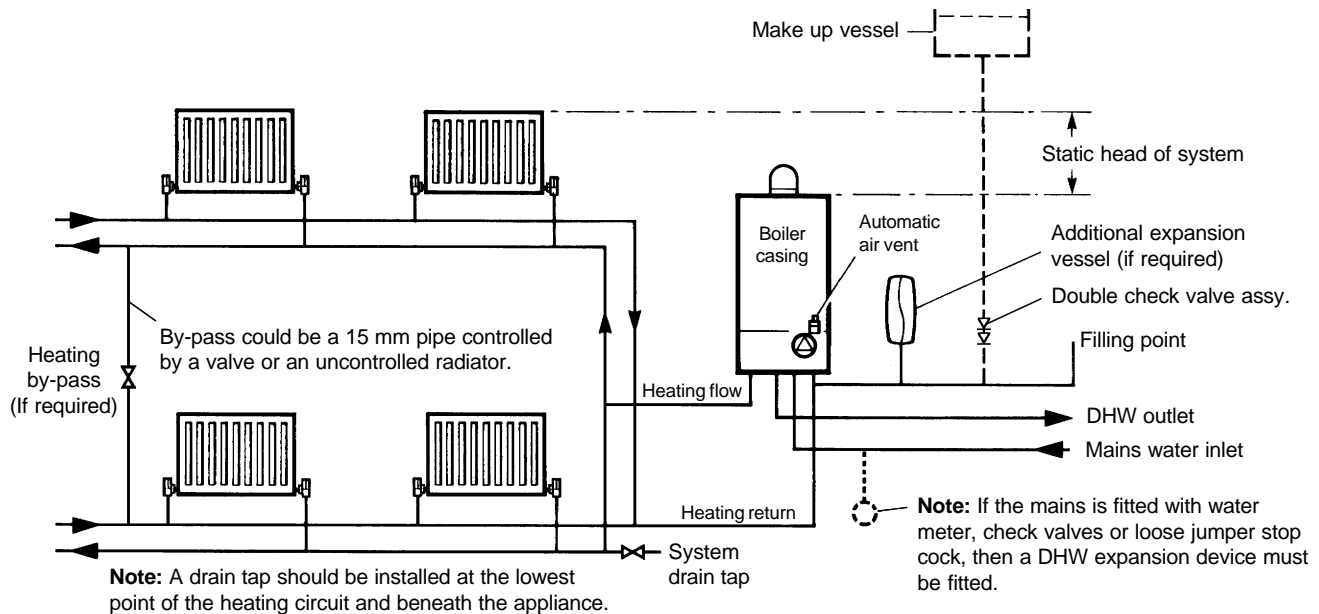
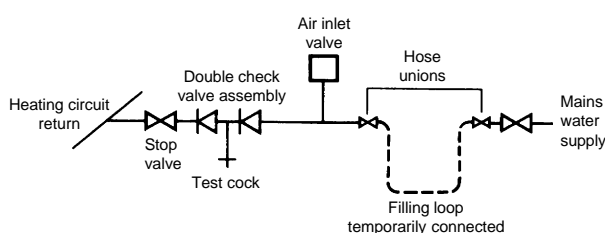
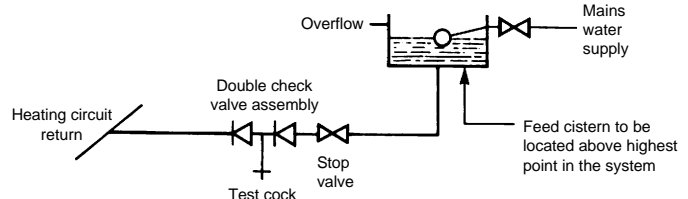

Fig. 6
Fig. 7
Fig. 8
3.7 CENTRAL HEATING SYSTEM - Fig. 6
System volume - The expansion vessel incorporated into the boiler is suitable for a sealed heating system with a maximum water content of 80 litres (18 gal). For guidance on water contents contact Alpha Therm Ltd. for Technical Data Sheet 15. Above 80 litres, consideration should be given to fitting an additional expansion vessel fitted in the position shown in Fig. 6. To check correct operation of the expansion vessel(s) the system pressure should not be more than 2.5 bar when the system is at maximum operating temperature (for further guidance refer to BS 7074:1).
3.8 FILLING THE CENTRAL HEATING SYSTEM - Figs. 7, 8
The system design pressure (cold) should be set to 1.0 bar. This pressure is equivalent to a static head (see Fig. 6) of 10.2 metres of water. Provision should be made to replace water lost from the system. This can be by manual or automatic means, as shown in Figs. 7 and 8. The position for connecting an automatic make-up vessel is indicated in Fig. 6. A double check valve assembly must be used, as shown in Fig. 8.
Filling of the system must be carried out in a manner approved by the local Water Undertaking. Where allowed, the system may be filled via a temporary connection as shown in Fig. 7. After filling, always disconnect the flexible hose of the filling loop.